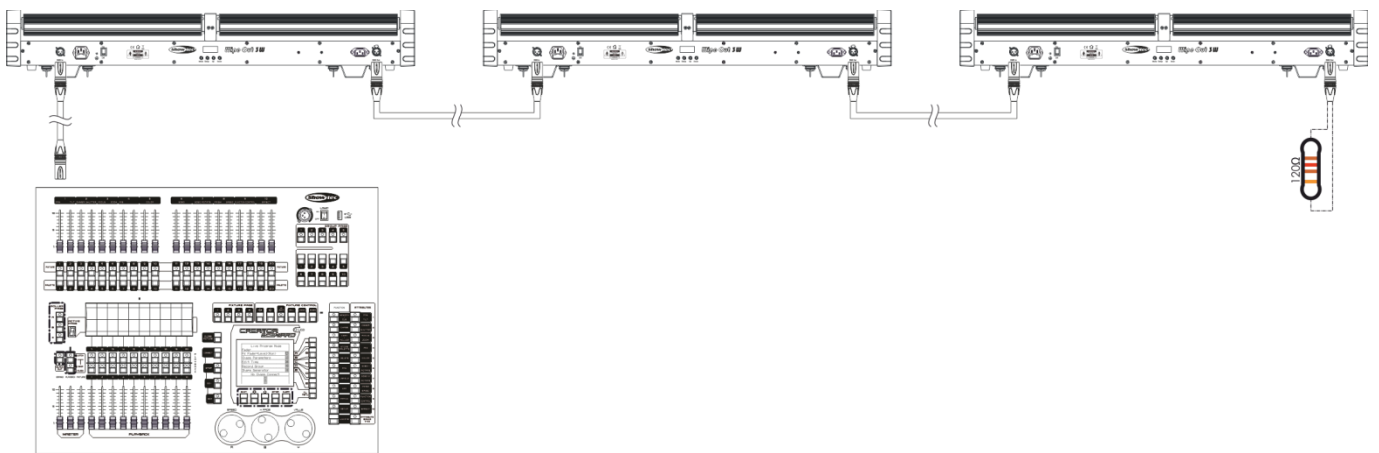

Fig. 03
- 05) Link the units as shown in Fig. 03. Connect a DMX signal cable from the first unit's DMX "out" socket to the second unit's "in" socket. Repeat this process to link the second, third, and fourth units.